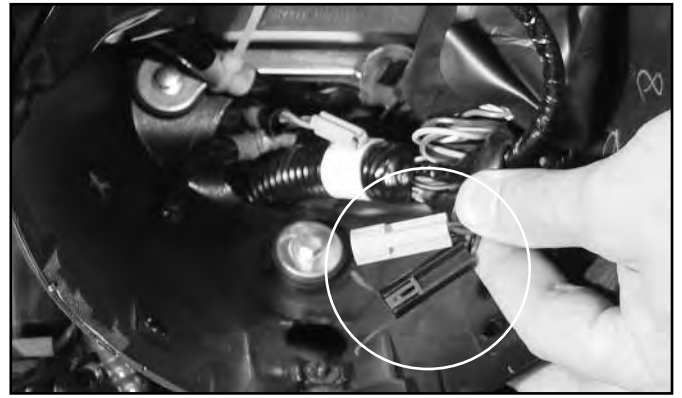

Figure 4
5. Disconnect the **Right (Black)** and **Left (Grey)** turn signal connectors. **Figure 4**